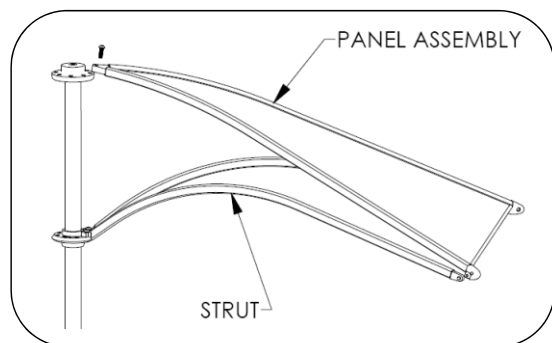

Fig. 4a – Install panel
5. Install one panel between the two struts. Fit holes in end caps over alignment pin at the end of each strut. Bolt to top ring. See Figs 4a, 4b and 4c.